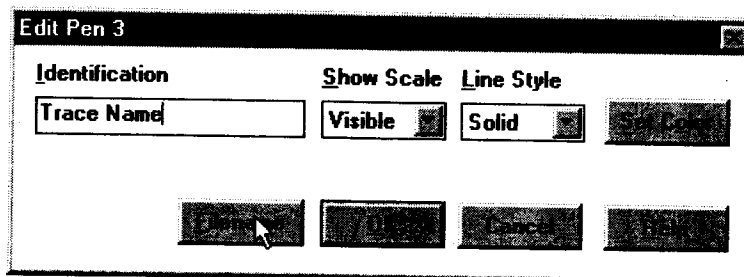

Figure 8-24 Edit Pen Dialog Box
To add another trace (point) to the graph, double click the mouse over the graph area (C) or select "Graph - Setup" from the menu. The Edit Graph dialog box will appear. Press the Add button. This will bring up the Edit Pen dialog box shown below (Figure 8-24).
The Edit Pen dialog box (Figure 8-24 above) can be used to add a name to the trace with the **Identification** box, simply type in the name you want. Use the **Show Scale** drop down list to select whether the Y Axis scale is visible or not (off). If all traces have the same axis it is not necessary to show them all.